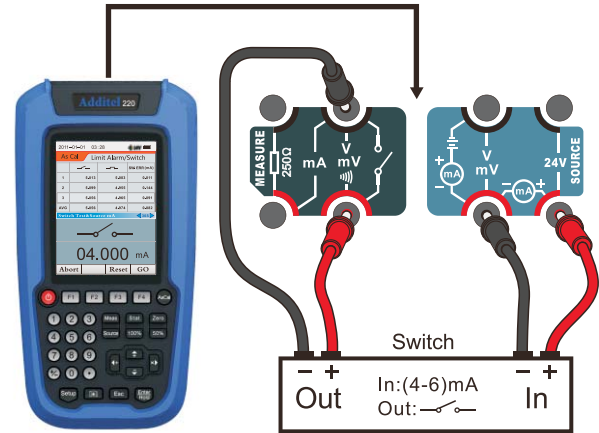

Figure 9.41 Current switch calibration
3. Use  or  key to set the limit alarm / switch automatically performs a cycle length of time, according to Figure 9.41 shows the test line connected.